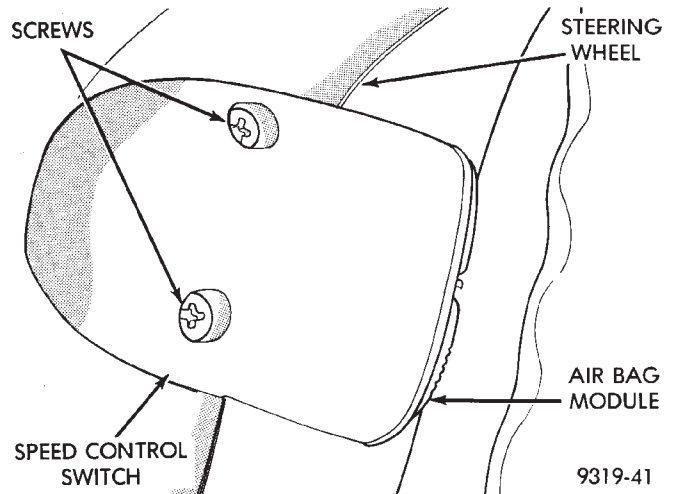

Fig. 3 Speed Control Switches
(2) Disconnect negative (ground) cable from battery, isolating cable from battery.
(3) Remove the 2 speed control switches from the steering wheel, (Fig. 3) to gain access to the air bag module attaching screws. If the vehicle is not equipped with speed control, pry out the covers on sides of steering wheel for access.